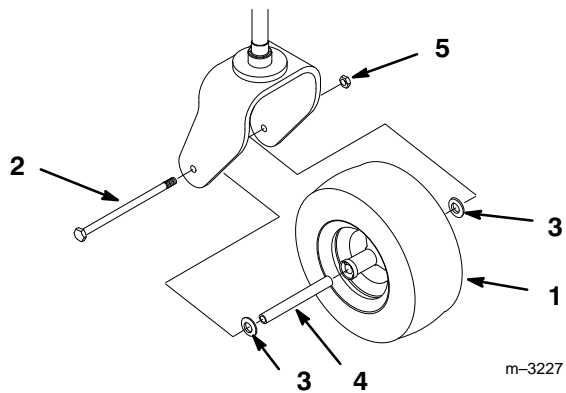

Figure 1
1. Remove nut, washers, spacer and axle shaft from fork (Fig. 1).
2. Jack up rear of unit and install rear wheel into castor fork (Fig. 1).
3. Place wheel with spacer installed and washers between fork and slide bolt through bearings (Fig. 1).
4. Secure bolt with 1/2" locknut (Fig. 1).
6. Grease castor wheel bearings (Fig. 1).